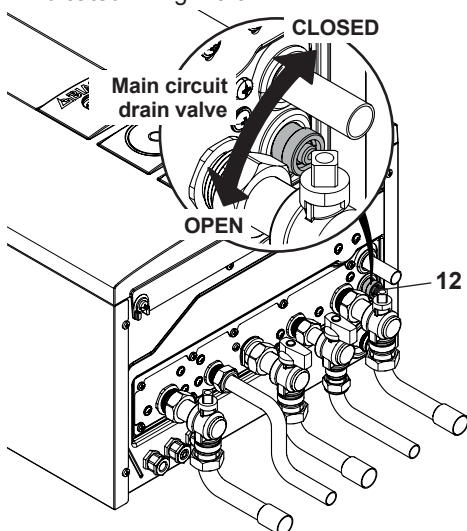

Fig. 10.6
- Loosen the central heating drain cock 12 indicated in Fig. 10.6.